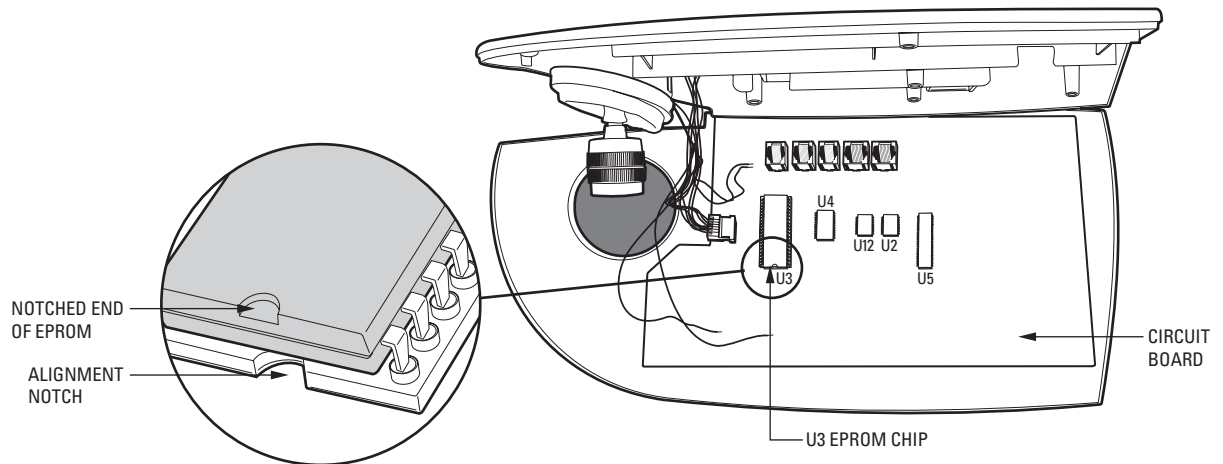

Figure 2. U3 EPROM Chip
6. Remove the existing U3 EPROM chip (refer to Figure 2) from its socket using the provided extraction tool. Remove the chip slowly to avoid damaging the socket.
8. As illustrated in Figure 2, orient the chip using the alignment notch as a guide. Verify pin-to-socket alignment, and then carefully press the chip into its socket until the chip is completely seated.